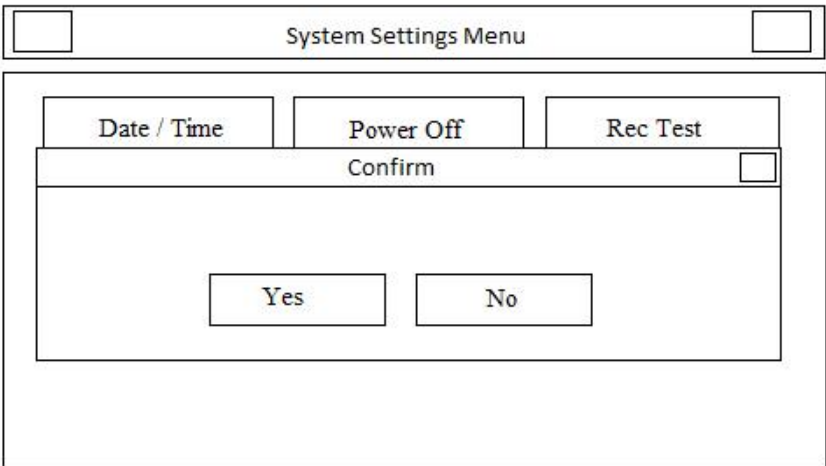

Figure 3-4 Confirm
- **Default Factory:** To load factory default settings. Because of changing all your previous settings, the system asks if you are sure to change all by this message (Figure 3-4).